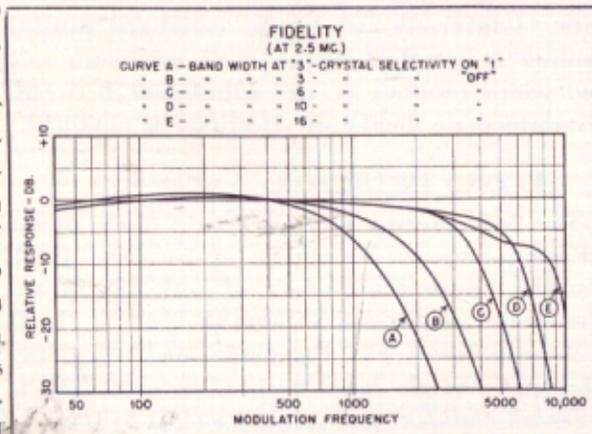

FIG. 9—Audio fidelity curves.
b. *Output Transformer*: The output transformer (T8) has two secondary windings; a 500-ohm secondary (4-5) for power output, and a secondary for earphones (6-7) designed to deliver about 3% of the output power into an 8000-ohm resistive load when the 500-ohm secondary is connected to a matching load such as the loudspeaker (see PAR. 7f). The turns ratio and resistance of the earphone winding are such that the power delivered to any load between 8000 ohms and 80 ohms varies less than 6 db, and the power input to a 250-ohm load is but 2 db greater than that to a 4000-ohm load. FIG. 9 shows curves of overall audio fidelity with different settings of the CRYSTAL SELECTIVITY and BAND WIDTH controls.